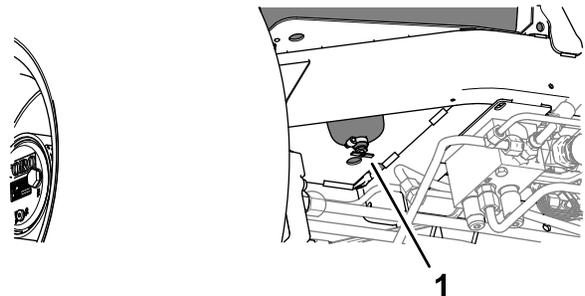

Figure 83
2. Align a drain container under the drain valve at the bottom of the fuel tank (Figure 83).